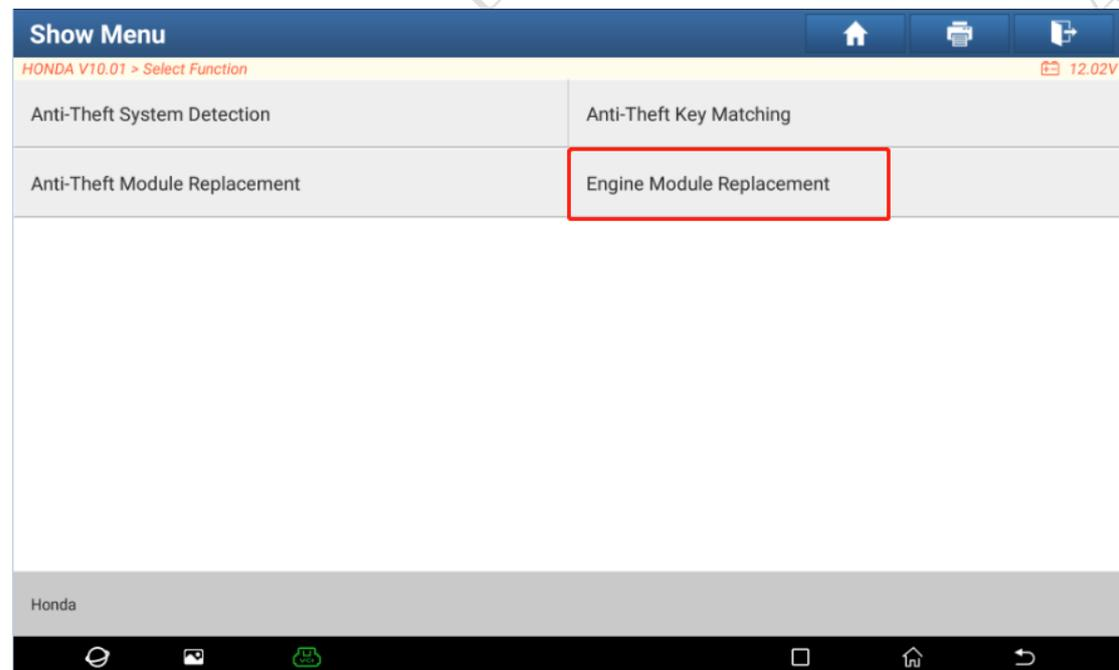

Figure 2
3. Select the menu [Engine Module Replacement], the software will automatically detect the Anti-theft type and display the corresponding function menu, as shown in Figure 2.